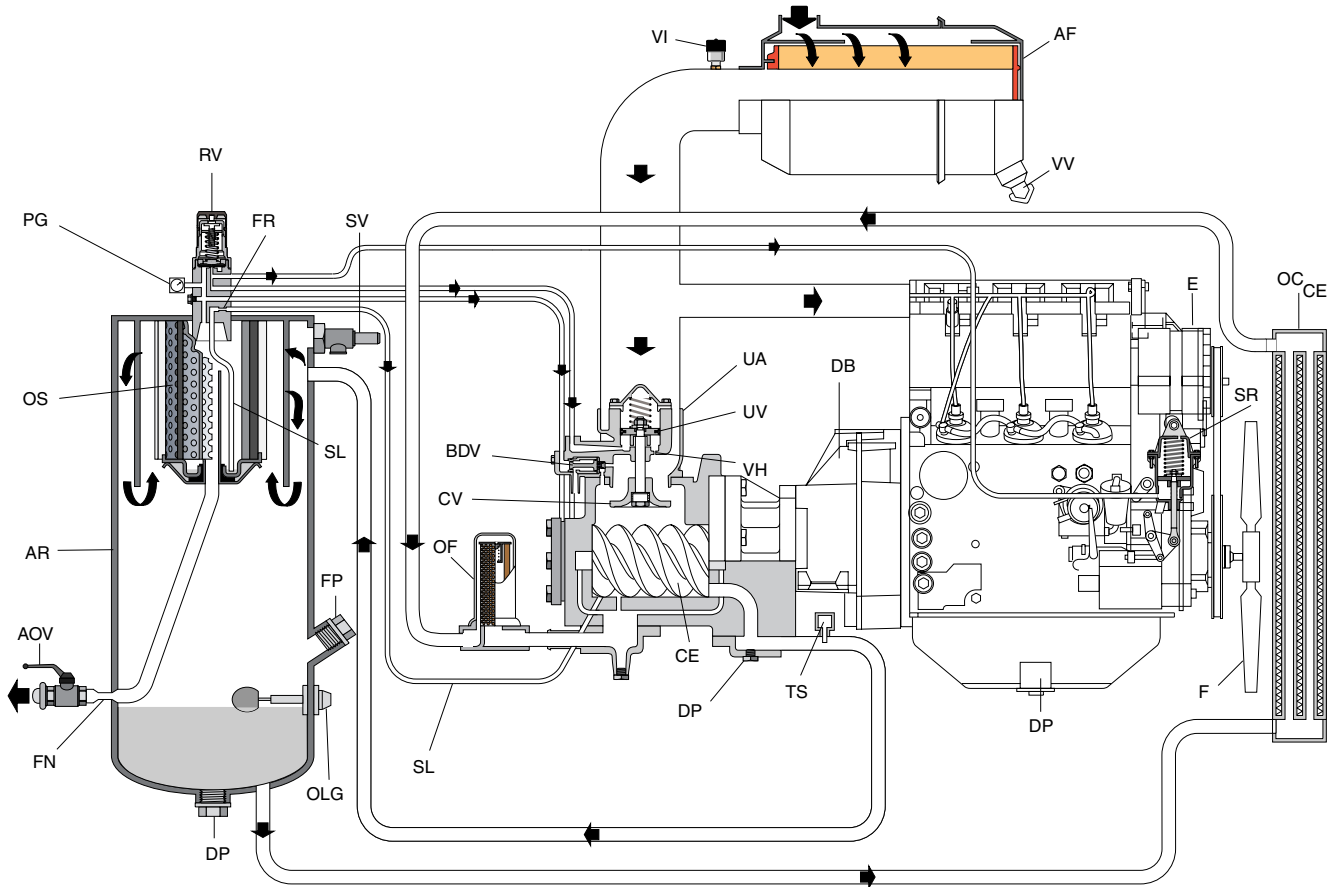

Fig. 2.3
2.5 AIR FLOW (SEE FIG. 2.3)
2.6 OIL SYSTEM (SEE FIG. 2.3)
2.7 CONTINUOUS REGULATING SYSTEM (SEE FIG. 2.3)